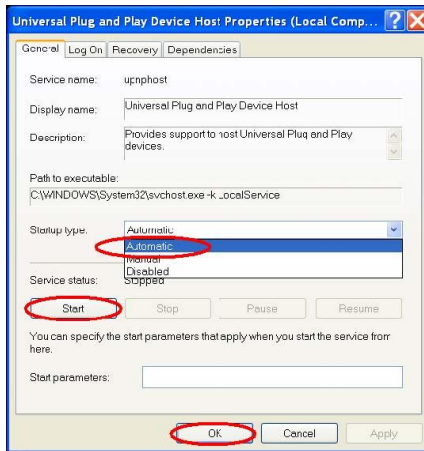

Figure A-20
**Step 7:** Choose **Automatic** in the **Startup type**, press the **Start** button, and click **OK** to start it. See Figure A-20